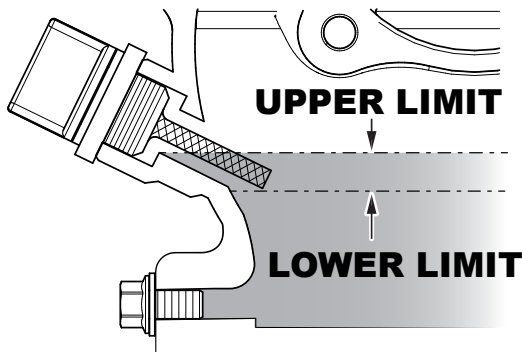

Figure 19. Engine Oil Level
4. If the oil level is low (Figure 19), fill to the edge of the oil filler hole with the recommended oil type as listed in Table 8. Refer to Table 3 or Table 4 for maximum engine oil capacity.